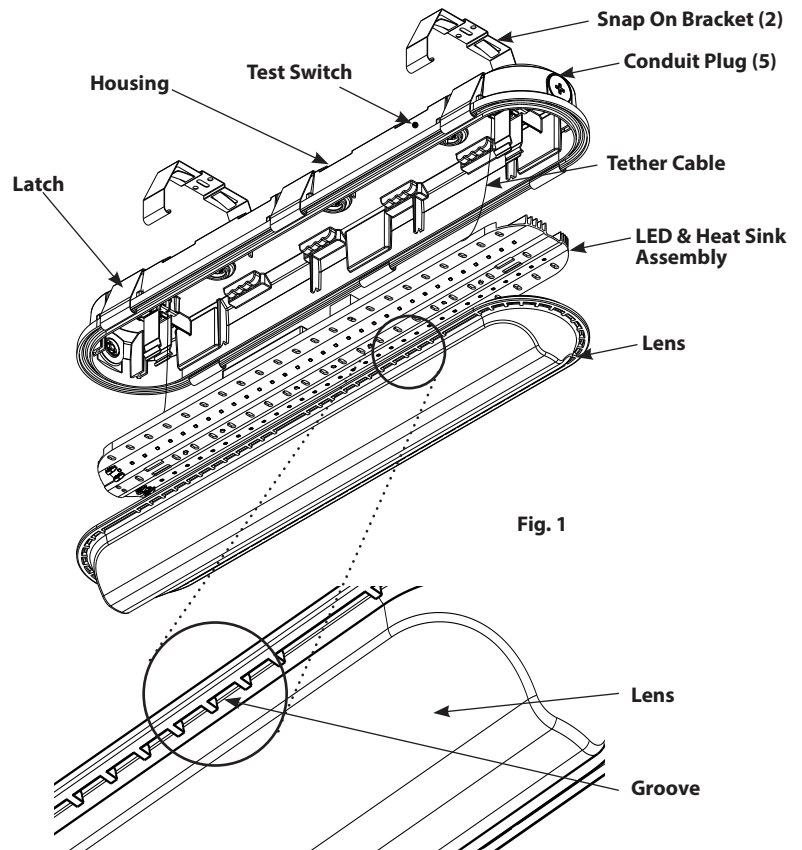
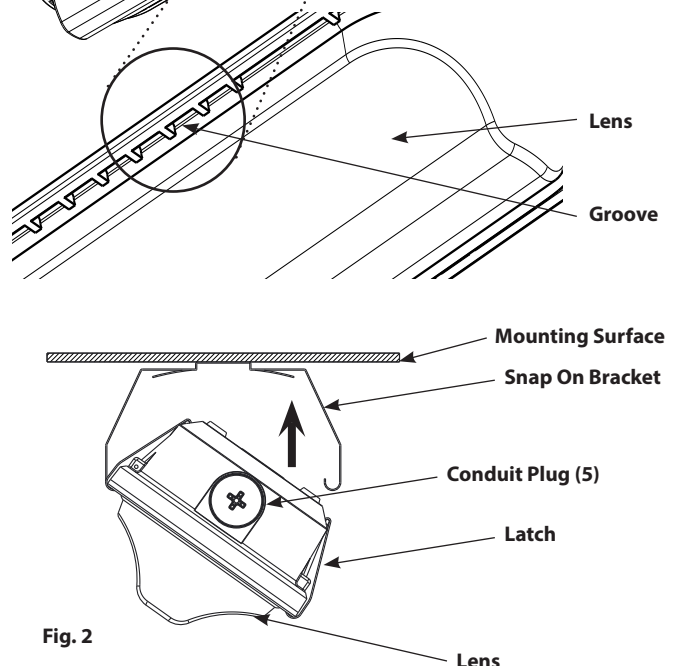

Fig. 1
Fig. 2
7. Snap **Housing** on **Snap On Brackets (2)** as shown in **Fig. 2**. Ensure that **Housing** is secure to **Snap On Brackets (2)** and inserted into the **Grooves** on **Lens** as shown in **Fig. 1**.